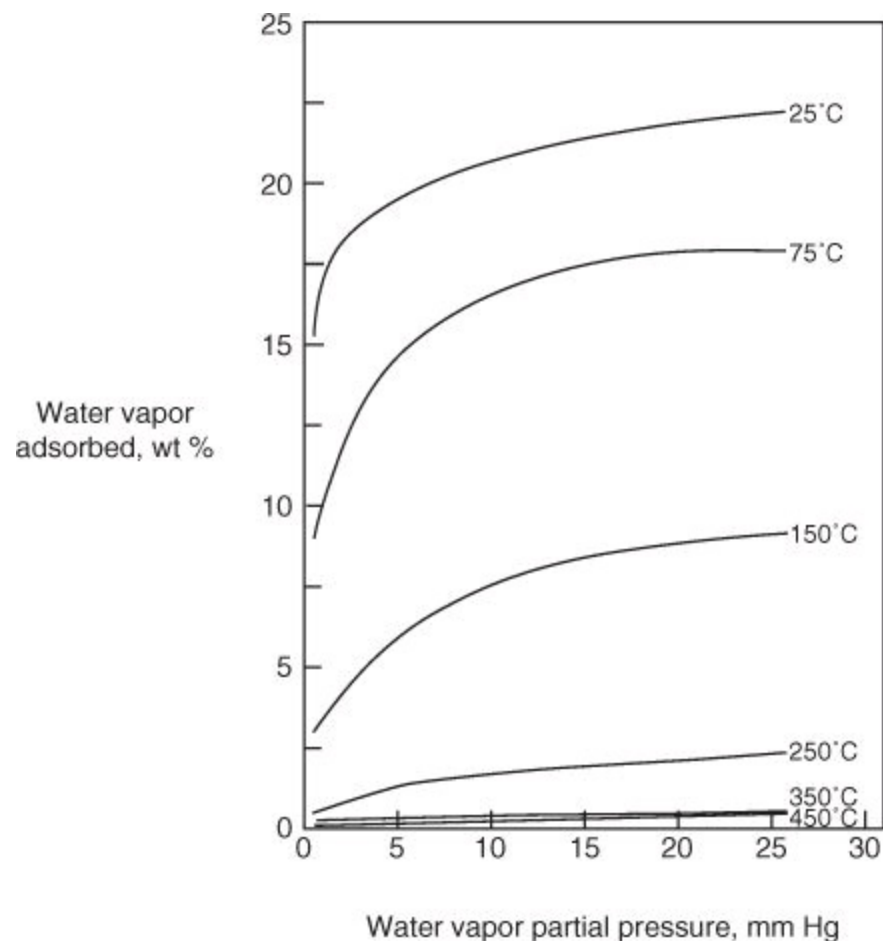

Figure 15.1. Equilibrium adsorption of water on Type 5A molecular sieves
finite time before it acquires sufficient energy to leave. Given sufficient time, an equilibrium state will be reached: The number of molecules leaving the surface will just equal the number arriving. The number of molecules on the surface at equilibrium is a function of the (1) nature of the solid adsorbent, (2) nature of the molecule being adsorbed (the adsorbate), (3) temperature of the system, and (4) concentration of the adsorbate over the adsorbent surface. Numerous theories have been proposed to relate the amount of fluid adsorbed to the amount of adsorbent. The various theories lead to equations that represent the equilibrium state of the adsorption system. Theoretical models hypothesize various physical conditions such as (1) a solid surface on which there is a monomolecular layer of molecules, or (2) a multimolecular layer, or (3) capillary condensation. Figure 15.1 illustrates typical simple equilibrium adsorption isotherms for the adsorption of water vapor on Type 5A molecular sieves at various temperatures. Note how the amount of gas adsorbed decreases as the temperature increases.